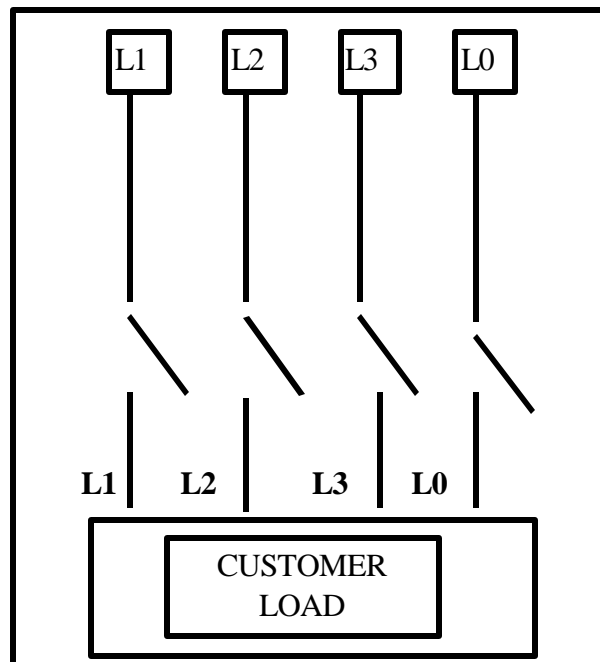

FIGURE 1, LOAD CONNECTION.
**Background:** Generators can be connected in many different configurations, each requiring load cables (refer to Figure 1). There are also many types of cable connectors/ends, including: load break, quick disconnects and pig tails just to name a few. Due to the high voltage (4160 VAC) produced by the MEP-012A generator set, exterior electricians are primarily responsible for connecting and disconnecting the load breaks, but power production personnel may be required to assist and/or perform this task once certified. As a electrical power production specialist, you are required to perform all aspects of connecting and disconnecting generator load cables for circuits less than 4160 VAC. This lesson will concentrate on a single unit facility installation.